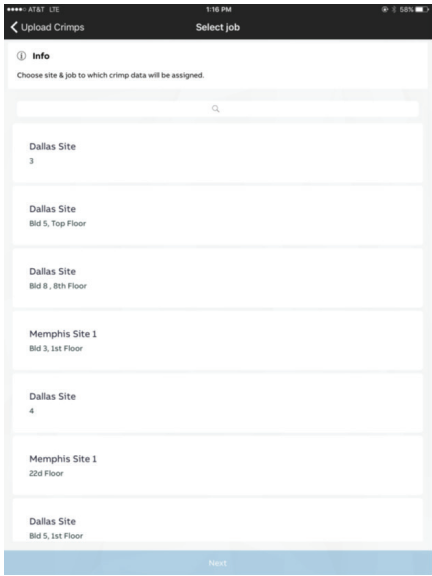

Figure 12
- A list of valid sites and jobs will appear (Figure 12)